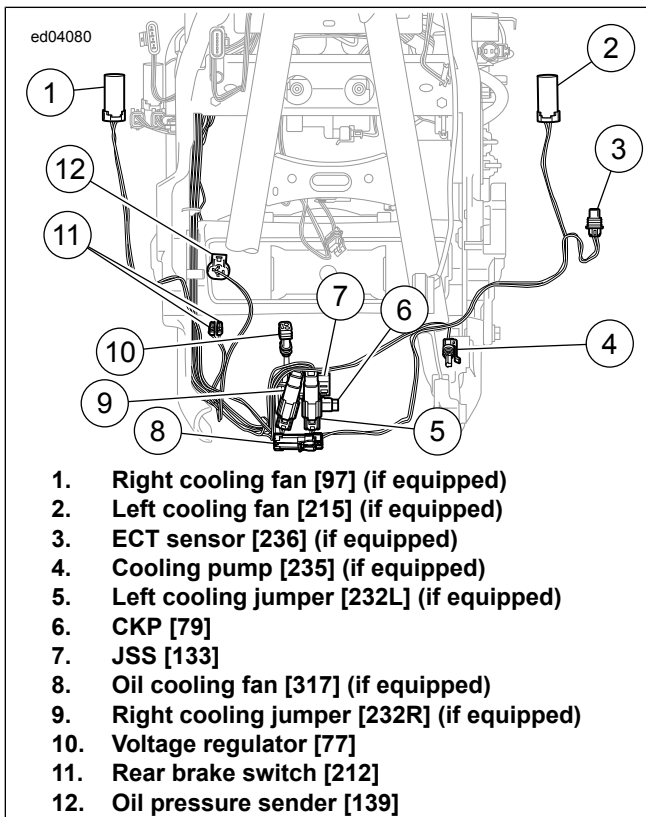

Figure 4-21. Front of Engine
See Figure 4-21. The neutral indicator is controlled through the (W) wire connected to the speedometer/IM. When the transmission is in neutral, the neutral switch closes and supplies a ground to the BCM on terminal D3. The BCM then sends a message to the speedometer/IM over the CAN bus indicating
See Figure 4-21. The oil pressure indicator is connected to the speedometer. The switch closes when oil pressure is low and supplies ground to the ECM. The ECM then sends a message to the speedometer over the CAN bus indicating the oil pressure is low. The speedometer supplies ground to the oil pressure indicator. This ground causes the indicator to illuminate with the IGN ON and the engine OFF.